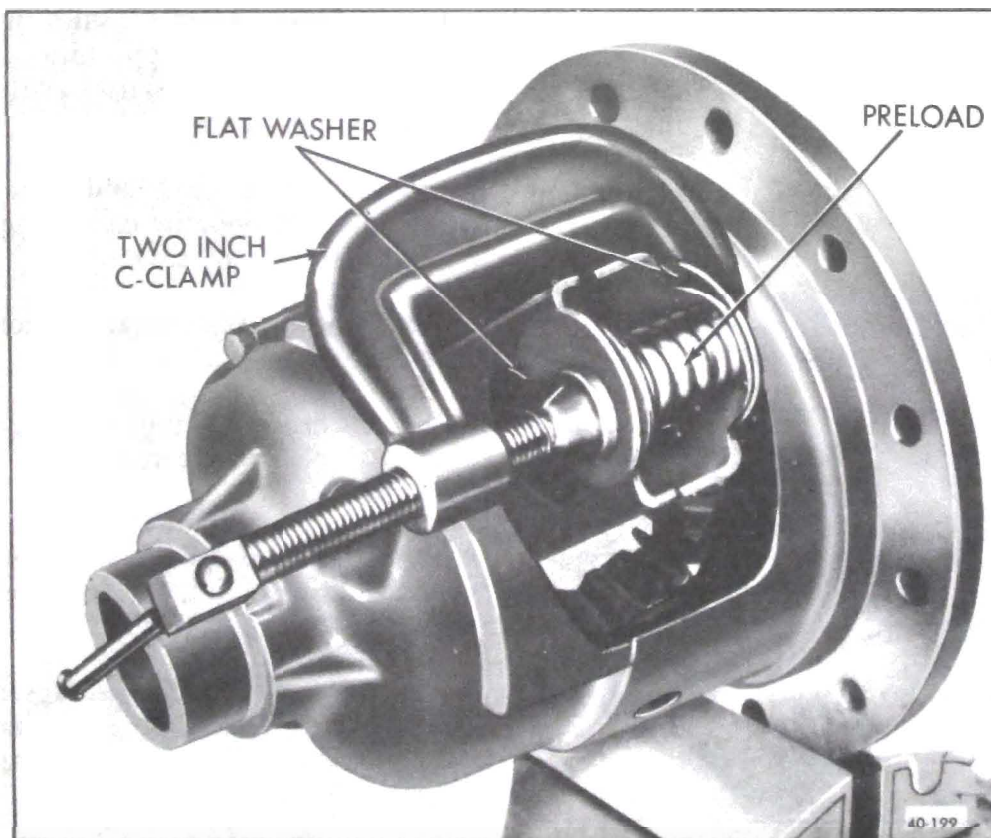

Figure 40-172 Compressing Preload Springs
9. Compress the preload springs as shown in Figure 40-172 and install the preload thrust blocks and springs between the side gears.